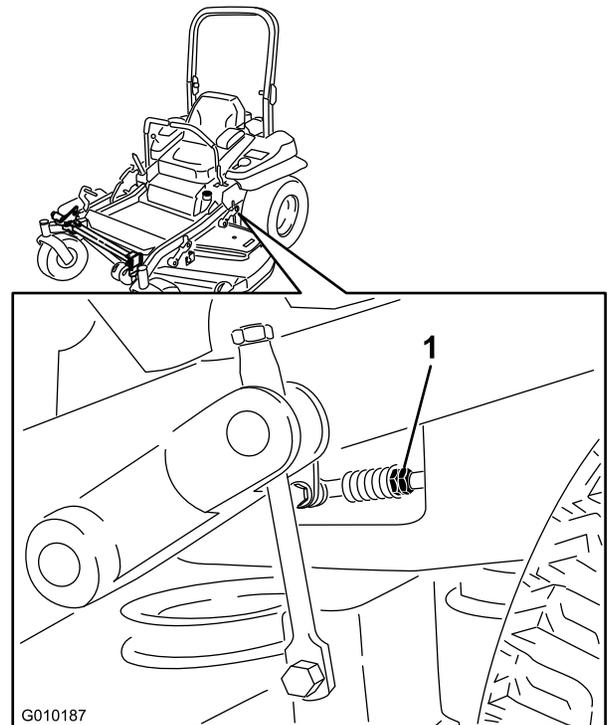

Figure 87
8. Adjust the pump-control rod lengths by rotating the double nuts on the rod in the appropriate direction until the wheels slightly creep in reverse (Figure 87).